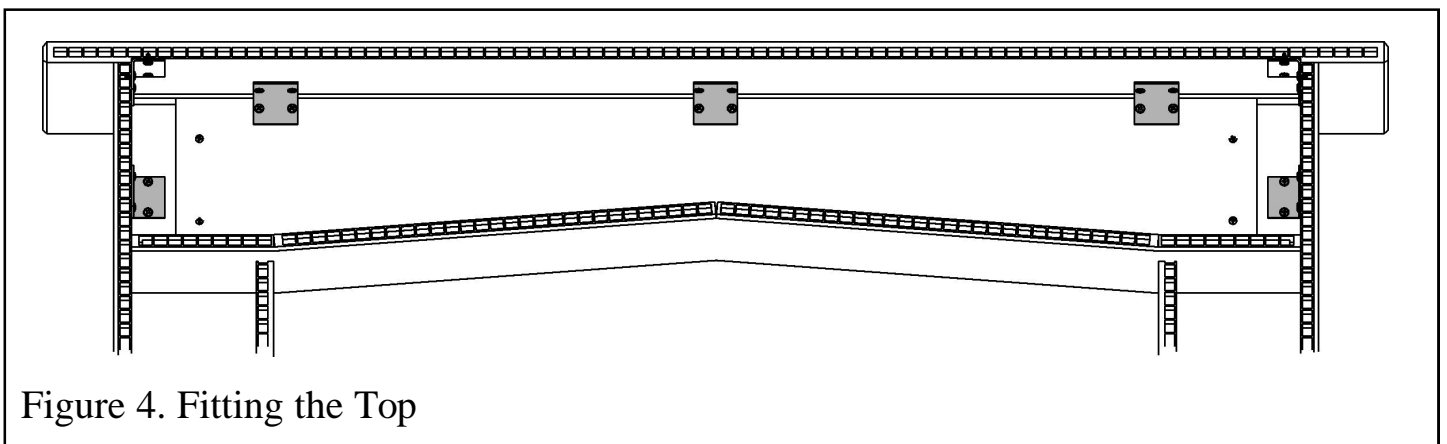

Figure 4. Fitting the Top
Lift the surround / mantle and stand upright. Support the surround / mantle to prevent it falling. There are pilot holes in the top of the legs and cross member. Locate the top as in figure 4 so the the holes in the brackets are in line with those of the pilot holes in the surround / mantle and secure in place using ten screws (F).